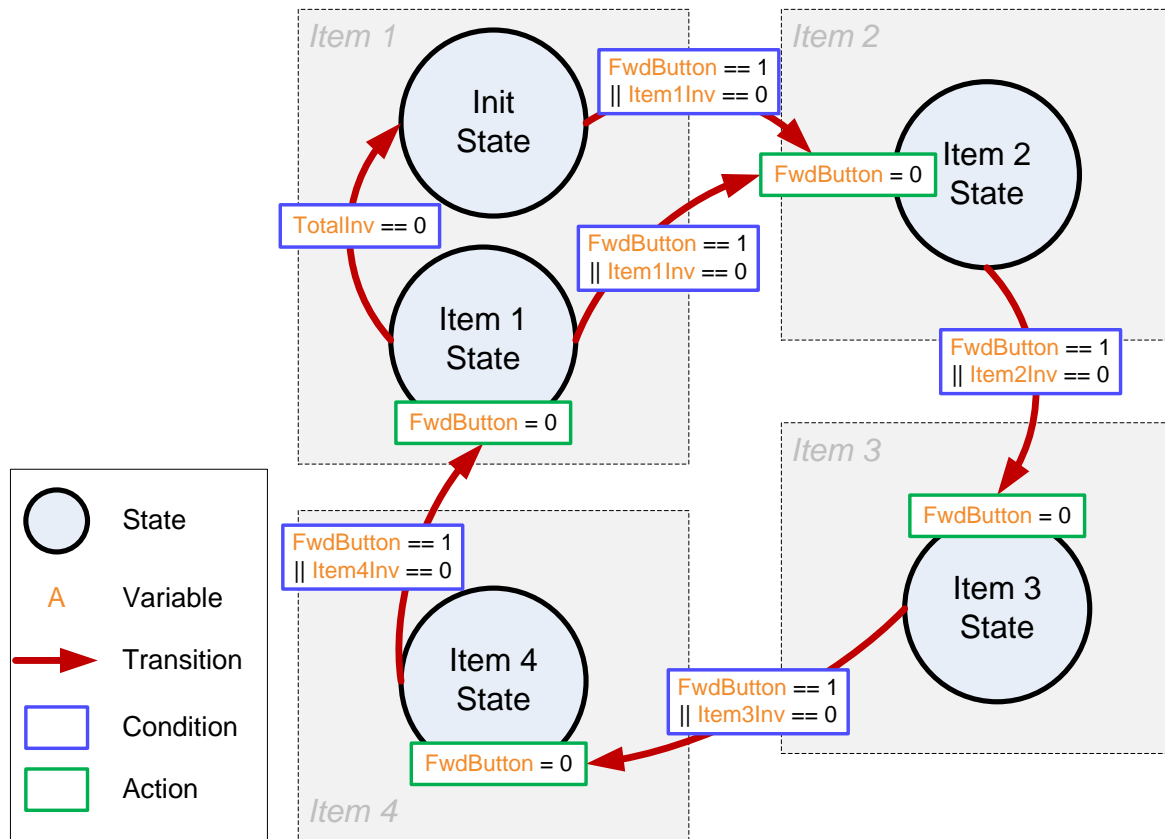

Figure 67: State Transition Map of Vending Machine Example
The vending machine operates in a complex motion sequence. It features many interfaces to buttons as well as conditional state transitions. The entire motion sequence can be implemented in SpinTAC™ Position Plan. Figure 67 shows the state transition map for the vending machine.
- In the function ST_setupPosPlan, find the lines highlighted in Figure 67. Comment out each line. This will not reset the value for “gVendFwdButton” when exiting a state.